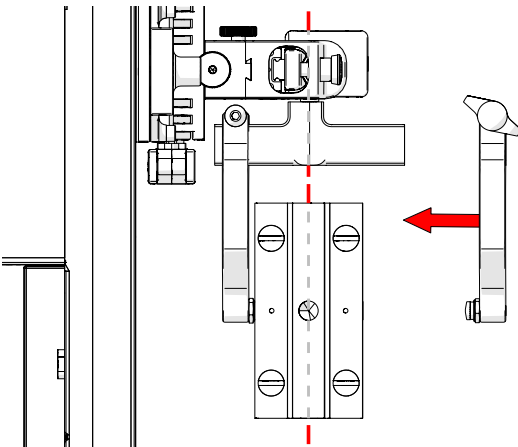

Fig. 158 - Align probe with yoke
6. Align the middle of the wedge with the centre of the yoke (Fig. 158).
7. Tighten both the probe holder arm adjustment knob and the arm clamp screw (Fig. 158) while ensuring the wedge remains centred with the yoke.